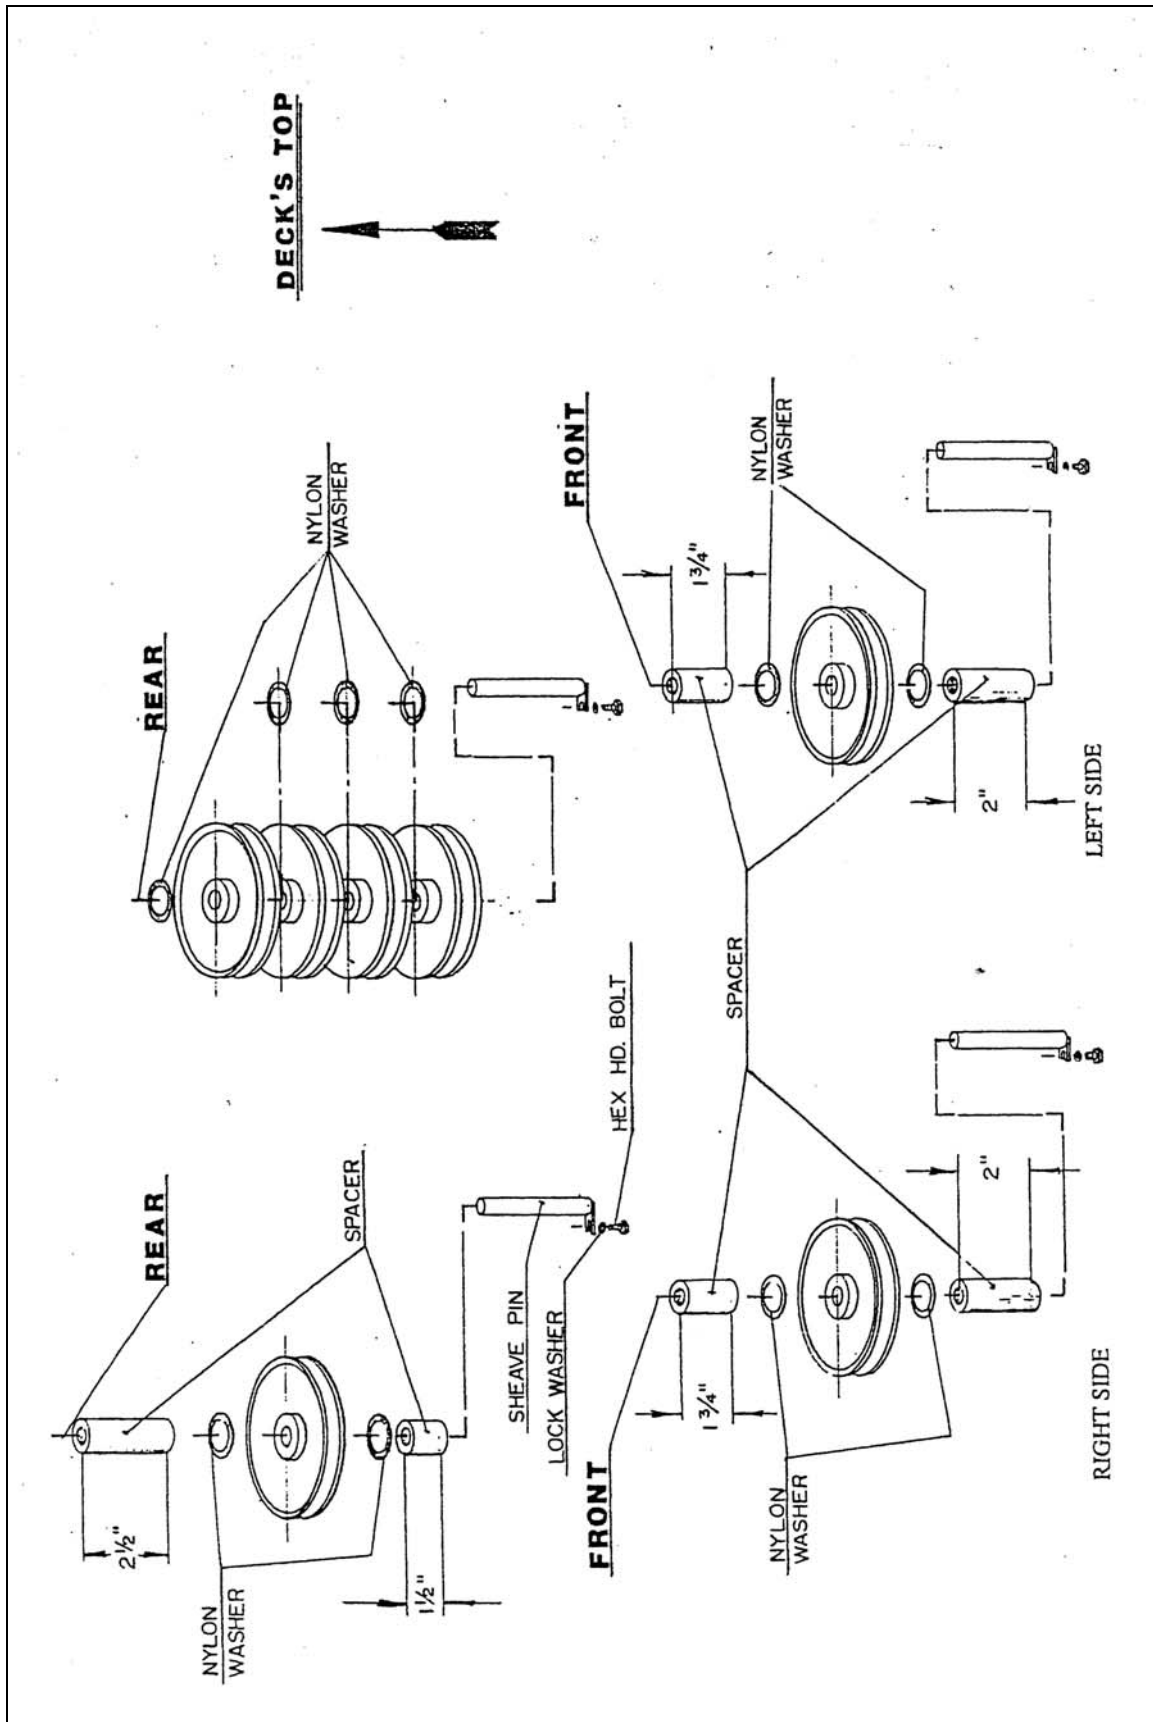

Figure 4. Sheaves installation
- CHECK FOR CORRECT ARRANGEMENT OF SPACERS ON SHEAVE STACKS, FIGURE 4.
- Install the sheave into the front of the right deck as shown in Figure 4.
- Install the sheave into the rear of the right deck as shown in Figure 4.
- Install the sheave into the front of the left deck as shown in Figure 4.
- Install the sheave stack assembly at the rear of the left deck as shown in Figure 4. Sheaves installation.